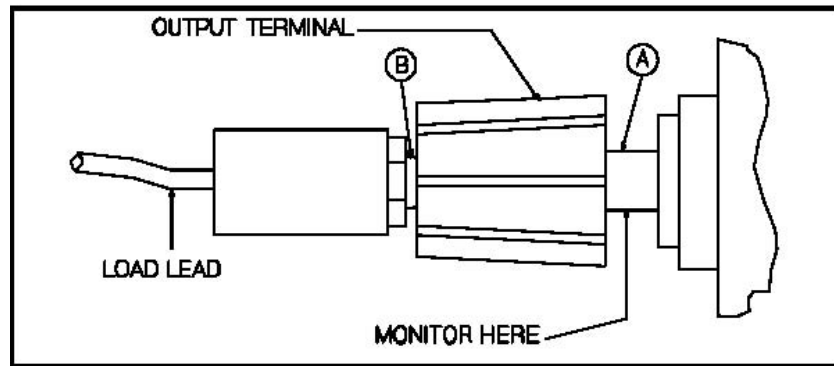

Figure 1-5 Front Panel Terminal Connections
When performance measurements are made at the front terminals (Figure 1-5) the load should be plugged into the front of the terminals at (B) while the monitoring device is connected to a small lead or bus wire inserted through the hole in the neck of the binding post at (A). Connecting the measuring device at (B) would result in a measurement that includes the resistance of the leads between the output terminals and the point of connection.